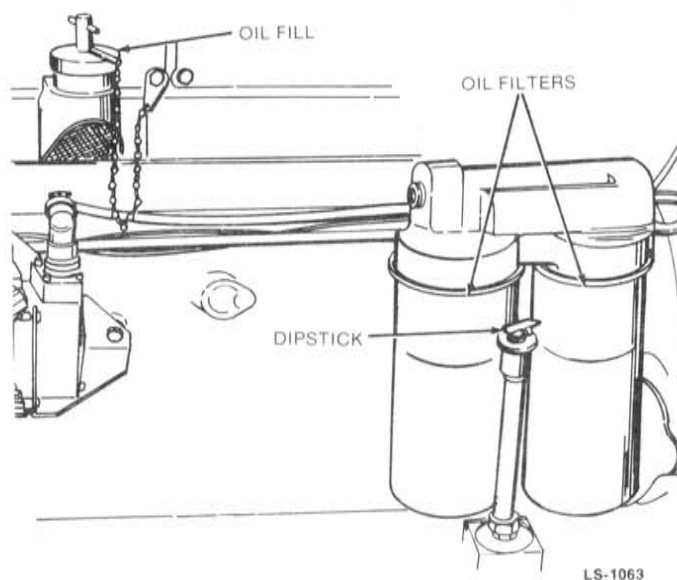

FIGURE 5. OIL FILTER AND DIPSTICK LOCATION
Check the engine oil level during engine shutdown periods at the intervals specified in the Maintenance Table. The oil dipstick and oil filter are located on the same side of the engine (see Figure 5). The dipstick is stamped with high and low marks to indicate the level of oil in the crankcase. For accurate readings, shut off the engine and wait approximately 15 minutes before checking the oil level. This allows oil in the upper portion of the engine to drain back into the crankcase. Figure 6 shows the oil fill cap.
Keep the oil level as near as possible to the high mark on the dipstick. Remove the oil fill cap (see Figure 5) and add oil of the same API and brand when necessary.
1. Remove drain plug (see Figure 5) and allow oil to drain.